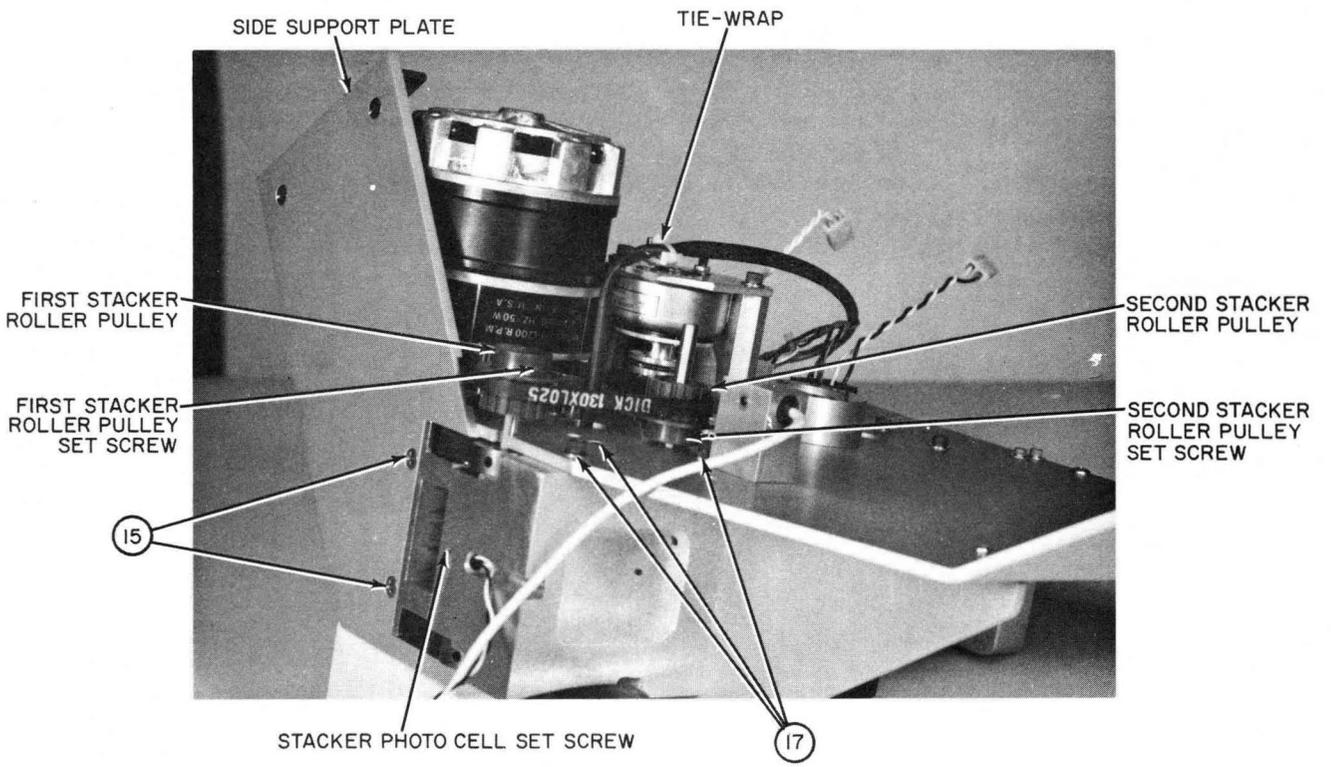

Figure 35. Bottom View Main Drive Motor Assembly
3. Remove two 8 x 32 Phillips flat head screws (15) holding side support plate, figure 35.
8. Using a 3/32 Allen wrench, LOOSEN the set screws in the two stacker nylon pulleys, figure 35. Remove pulleys.
9. Cut nylon tie-wrap on solenoid mounting plate, holding light station cable, figure 35.
10. Using a 9/64 Allen wrench, remove three 8 x 32 socket head screws (17) holding stacker casting, figure 35. Lay stacker casting to one side.
7. When replacing the nylon pulleys, make sure set screw is on the flat side of the shaft, and that the pulley flange is oriented correctly, figure 35.
8. Re-install stacker casting onto main mounting plate. To insure pressure between the stacker and picker rollers, squeeze the stacker casting and picker casting together with hand pressure when tightening the three 8 x 32 socket head screws (17) holding the stacker casting, Figure 35. After tightening, check pinch between rollers. The steel roller should cause a slight depression onto the rubber rollers.
2. Remove nylon tie-wrap from solenoid mounting plate, figure 35.
2. Using a 1/16 Allen screwdriver, LOOSEN set screw in stacker casting holding stacker photocell, figure 35.
3. Remove photocell from casting, figure 35, and tag black and white wires from photocell.
4. Replace photocell, align photocell flush with stacker casting face-plate, and tighten photocell set screw, figure 35. Replace leads.